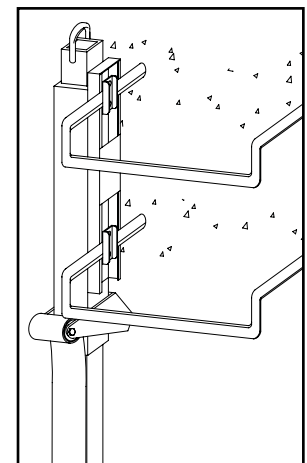

FIG. 4
2. Where rungs are installed in precast concrete and risers are too narrow to permit center mounting, attach the safety post to rung sides as shown (Fig. 4)